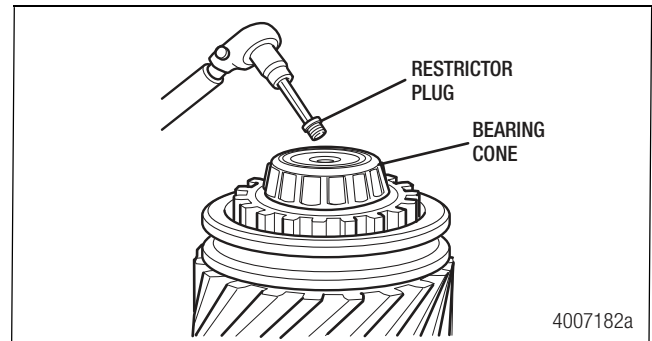

Figure 7.6
8. Apply Loctite® 592 threadlocker to the restrictor plug and install it into the end of the bearing cone. Tighten the plug to 15 lb-ft (20 Nm). Figure 7.6.